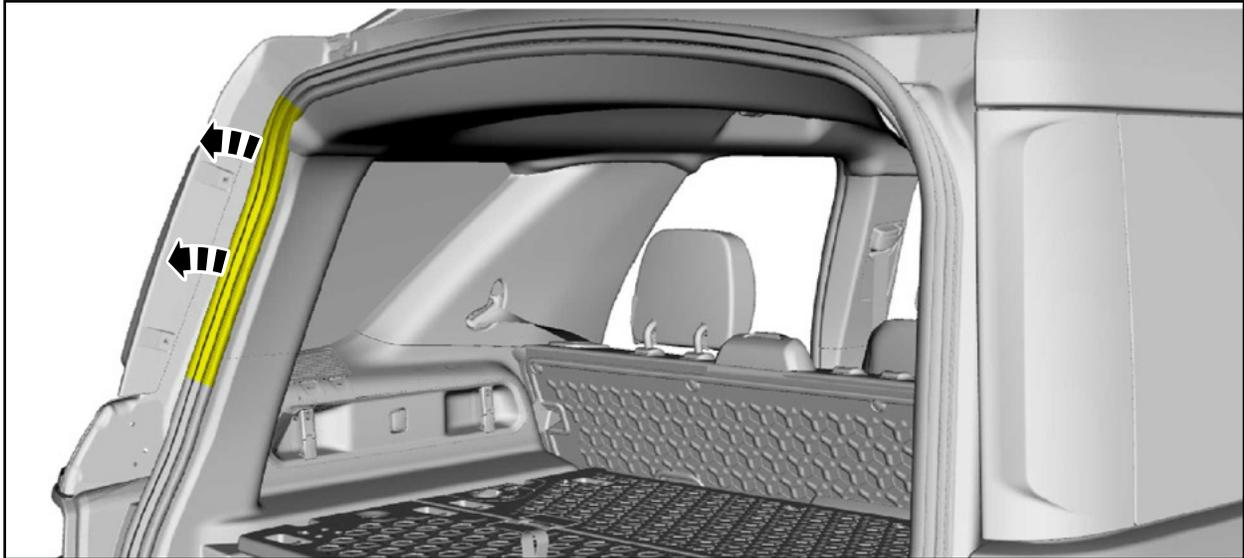

FIGURE 10
10. Position the LH portion of the liftgate weatherstrip aside. See Figure 10.